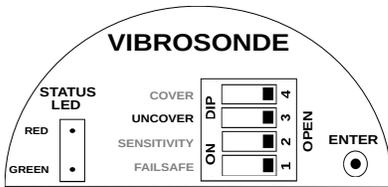

Figure 15: Saving Uncover Delay
4. Uncover Delay is entered, but not saved. To save and test the Uncover Delay, set the UNCOVER switch back to OPEN position as shown in figure 15.